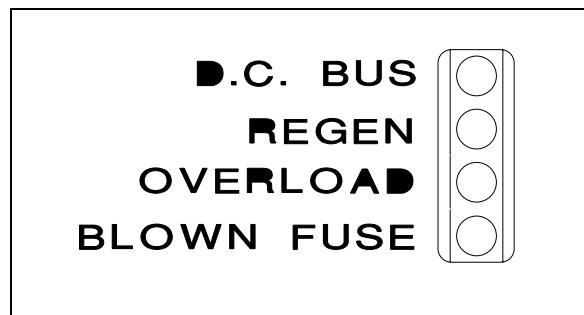

Figure 5.2. PSR4/5 12,20 Status LED's
The status of the PSR4/5-12 and 20 amp modules is indicated by one (1) Green, one (1) Yellow, and two (2) Red LED's. Refer to Figure 5.2 for the LED configuration. The diagnostic information indicated by these LED's is as follows: